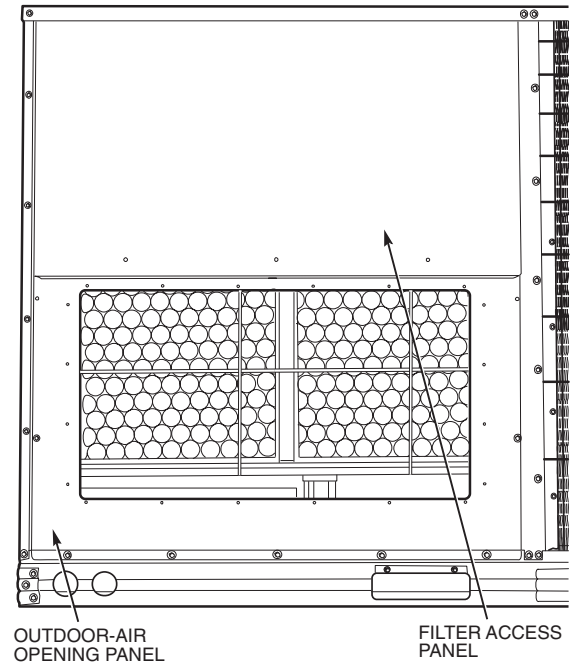

Fig. 27 — Typical Access Panel Locations
1. To remove the existing unit filter access panel, raise the panel and swing the bottom outward. The panel is now disengaged from the track and can be removed. Remove the indoor coil access panel and discard. See Fig. 27.